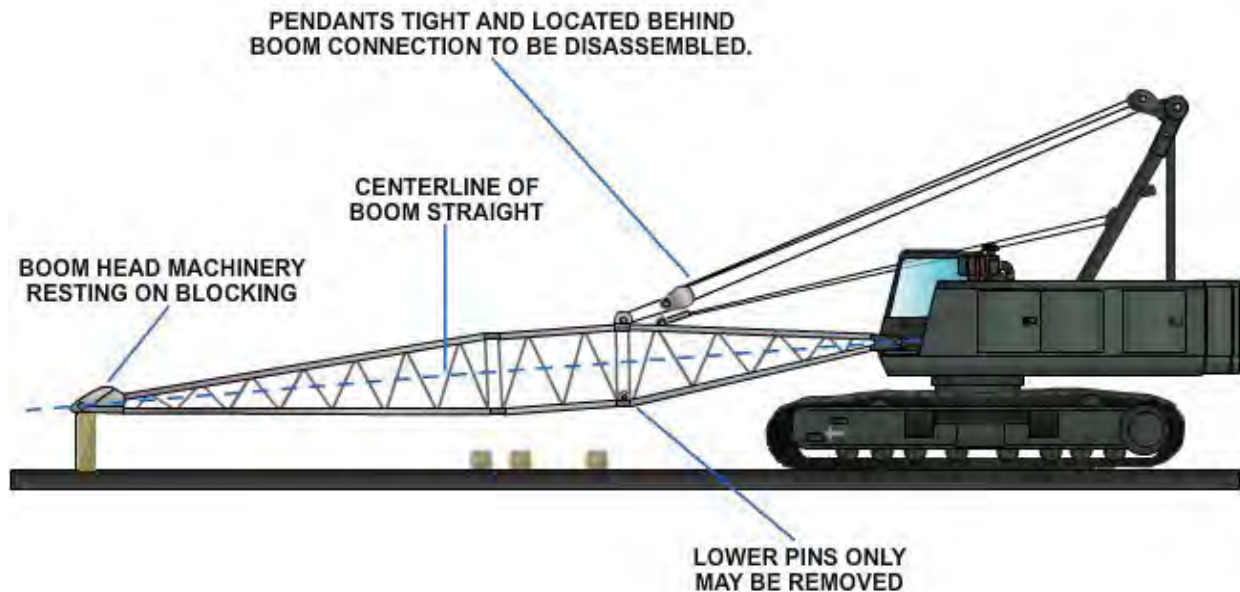

Figure 21-18 – Correct way of removing lattice boom section.
- When removing the boom section, be sure the pendants are tight and located at or behind the boom connection. Only the lower pins located behind the pendants may be removed; the boom must be straight, and head machinery rested on blocking, all of which are shown in *Figure 21-18*.